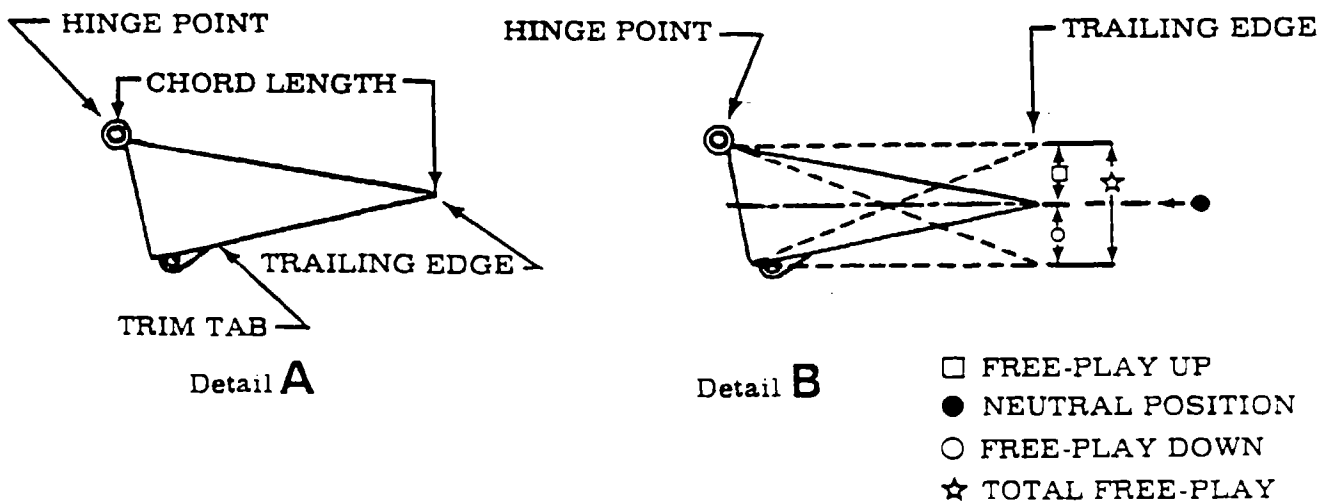

Figure 9-5. Elevator Trim Tab Free Play
#### 9-11. TRIM TAB FREE-PLAY INSPECTION. (Refer to figure 9-5.)
1. Measure chord length at extreme inboard end of trim tab as shown in detail A, figure 9-5.
Measure free-play at same point on trim tab that chord length was measured. Total free-play must not exceed maximum allowable. Refer to detail B, figure 9-5.